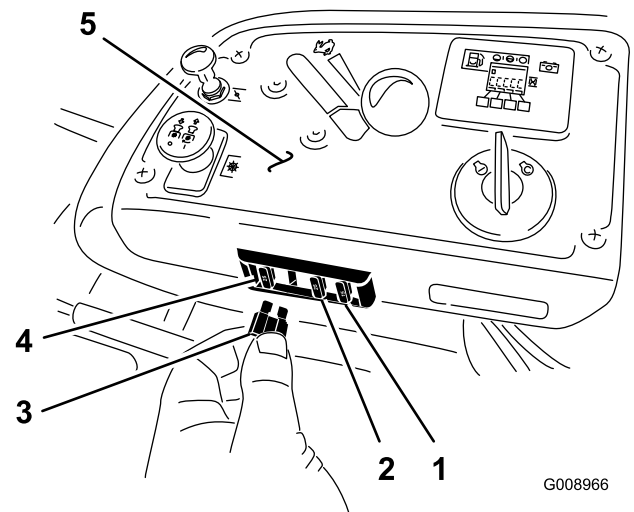

Figure 63
1. The fuses are located on right console next to the seat (Figure 63).
3. Install a new fuse (Figure 63).